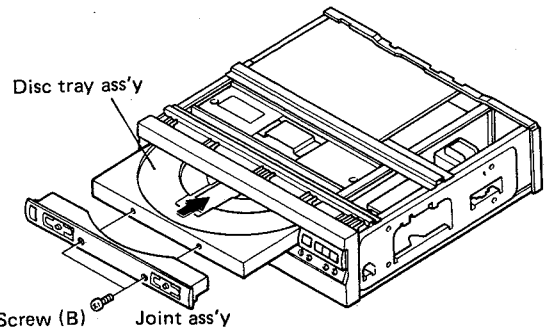

Fig. 3
4. Place the unit back to the normal position. Remove the joint ass'y from the disc tray by removing screws (B), and close the disc tray. (Fig. 3)